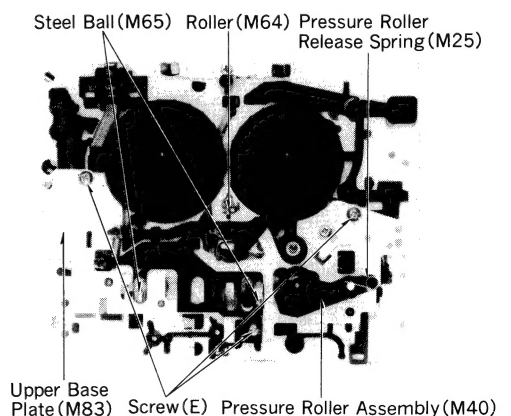

Fig. 4
In this case, take care not to lose steel ball (M65) and roller (M64) (fig. 4)
3. After removing pressure roller release spring (M25), remove pressure roller assembly (M40). (fig. 4)
4. Remove screw (E), and then upper base plate (M83) can be detached. (fig. 4)